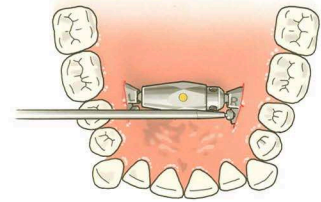

Fig 4
- 4 Insert the first 7 mm monocortical self drilling screw of 2.0 mm diameter (Ref 70-707S) , only **halfway depth** with the internal screwdriver insert (Ref 99-909S) mounted in its handpiece (Ref 99-901A) (Fig 4).